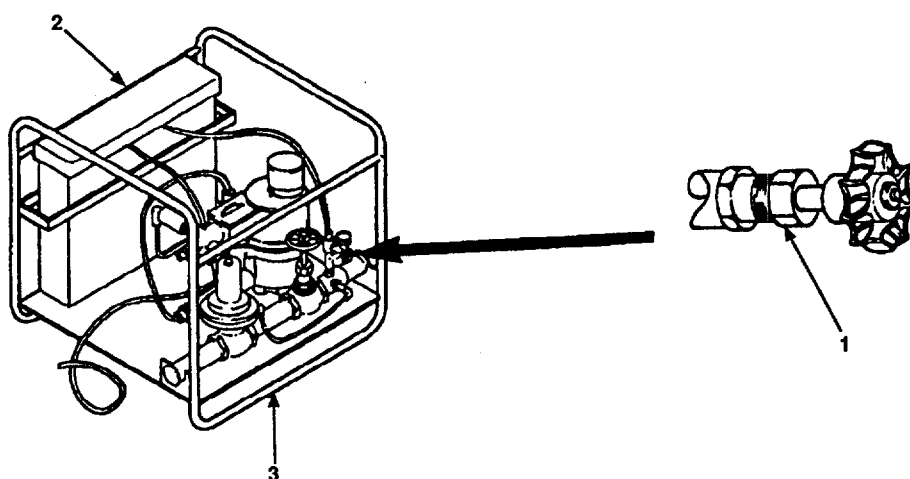

Figure 2-78. Flushing of Hypochlorination Unit (Model 1955-1 Shown).
- o. Open hypochlorination unit reservoir fill valve (Figure 2-78, 1). Fill reservoir (2) with water. When reservoir (2) is full, close reservoir fill valve (1) of hypochlorination unit (3).